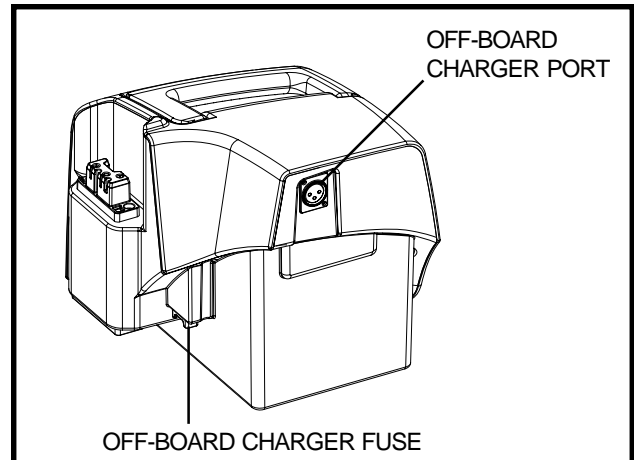
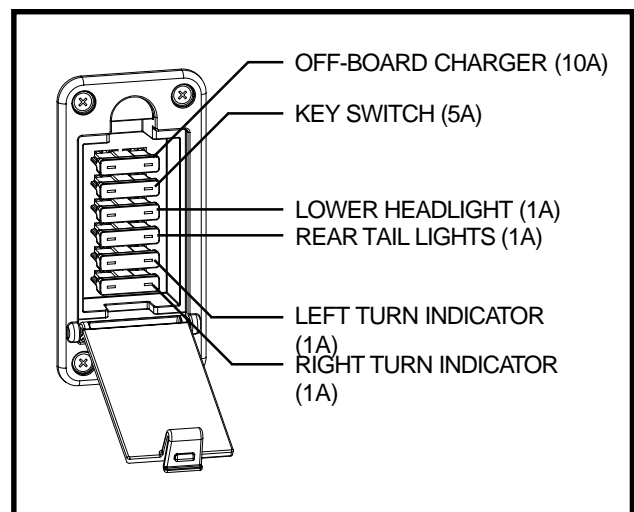

Figure 5A. Off-board Charger Port (Battery Box Mounted)
Figure 6. Tiller Console Fuses
Your scooter is equipped with a series of electrical system fuses, which help protect the off-board charging system, key switch and lighting system from receiving an overload of electrical current. These fuses are the same type used in automobiles and are located in a compartment on the tiller. See figure 6. If your scooter is equipped with battery boxes, a separate 10-amp fuse is located on the right battery box. See figure 5A. This fuse protects the off-board charging system when the batteries are charged off of the scooter. See IX. “Care and Maintenance” for fuse replacement.
5. Plug the 3-pin charger power lead into the off-board charger port on the right battery box. **See figures 5A and 10A.**